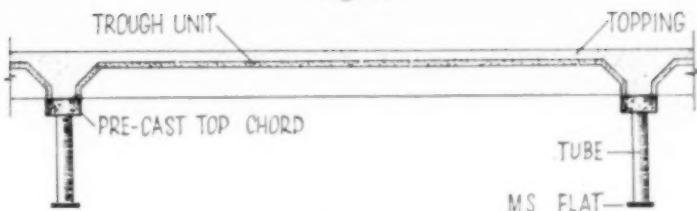

Fig. 3.
**SLOPING CEILINGS.**—Most architects prefer a flat ceiling, but in two cases (Hatfield College and Hatfield Technical School) the requirement was a sloping ceiling which allowed the same amount of light with a much smaller floor-to-ceiling height in the centre of the building and gave an opportunity to use substantial floor trusses and to have the heating installation in the space between the false ceiling and the floor (see Fig. 3, "Concrete and Constructional Engineering," February, 1952). In this case, which incidentally was designed before prestressing was developed so much as it is now, trussed beams are used. The same types of beams are used in the college and in the school, and the number of types was reduced to four. The trussed beam was selected because it was the simplest combination of steel and concrete with no intermediate diagonals, and a flat strip was used for the lower chord because it was easy to bend to the required shape. In the college the columns were precast, but in the school they were cast in-situ. *Fig. 1* shows the three connections, namely, two (b) and (c) to the precast columns and one (a) to in-situ columns. In the precast columns the plate projects and a slotted plate on the precast beam was fitted over it and fixed by square wedges. The in-situ columns were cast up to the level of the beam-support and the beam fitted over a threaded bar in the column to which it is held by a nut. While the erection was very simple in both cases, the fitting of the projecting plate into the precast column was a very expensive item, particularly as the plate had to be fitted absolutely accurately.
the architects' requirements. The position of these struts was very much controlled by the position of the lighting points. The central panel was much longer than at Hatfield, although the overall span was the same; this resulted in a considerably deeper beam over the top chord ( $10\frac{1}{2}$  in. instead of  $7\frac{1}{2}$  in. overall). In both cases only 3 in. of the top chord are part of the precast units, and troughs were used to span from beam to beam, at 5-ft. 6-in. centres at Hatfield and at 7-ft. 6-in. and 10-ft. centres at Torells (Fig. 3). On top and between the troughs